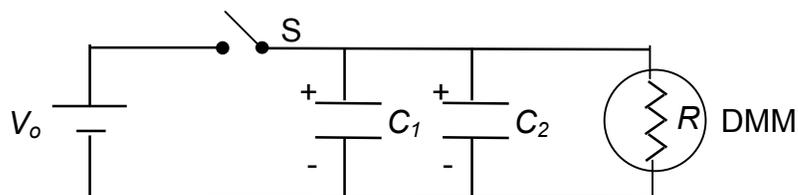

FIGURE 3
- In this part of the experiment, use the same two capacitors as in Part 1. Build the circuit shown below in Fig. 3.